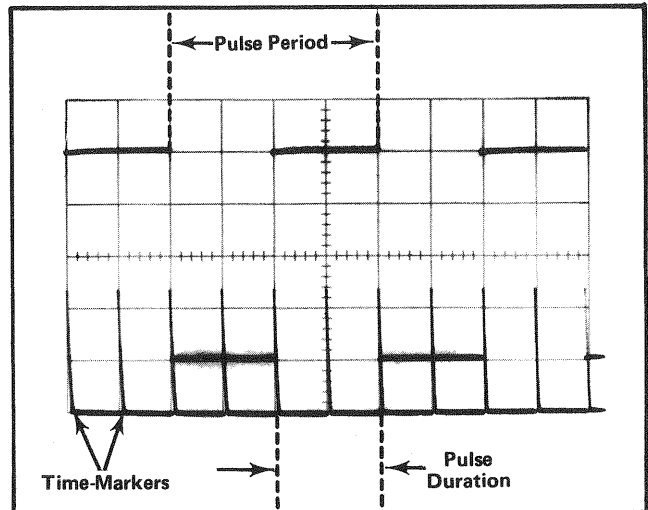

Fig. 5-9. Display showing 2101 pulse output and time markers, so pulse duration and period can be compared against time marker reference.
c. Apply .1 ms time markers to channel 2 and a 0.2 ms pulse with a period of .4 ms to channel 1 of the test oscilloscope. Adjust triggering level and vertical positioning controls so the two displays overlap (see Fig. 5-9). Adjust the 2101 PULSE AMPLITUDE control for a pulse amplitude of 6 divisions. Adjust the channel 2 vertical sensitivity (Volts/Div) for a marker amplitude of 2 divisions.